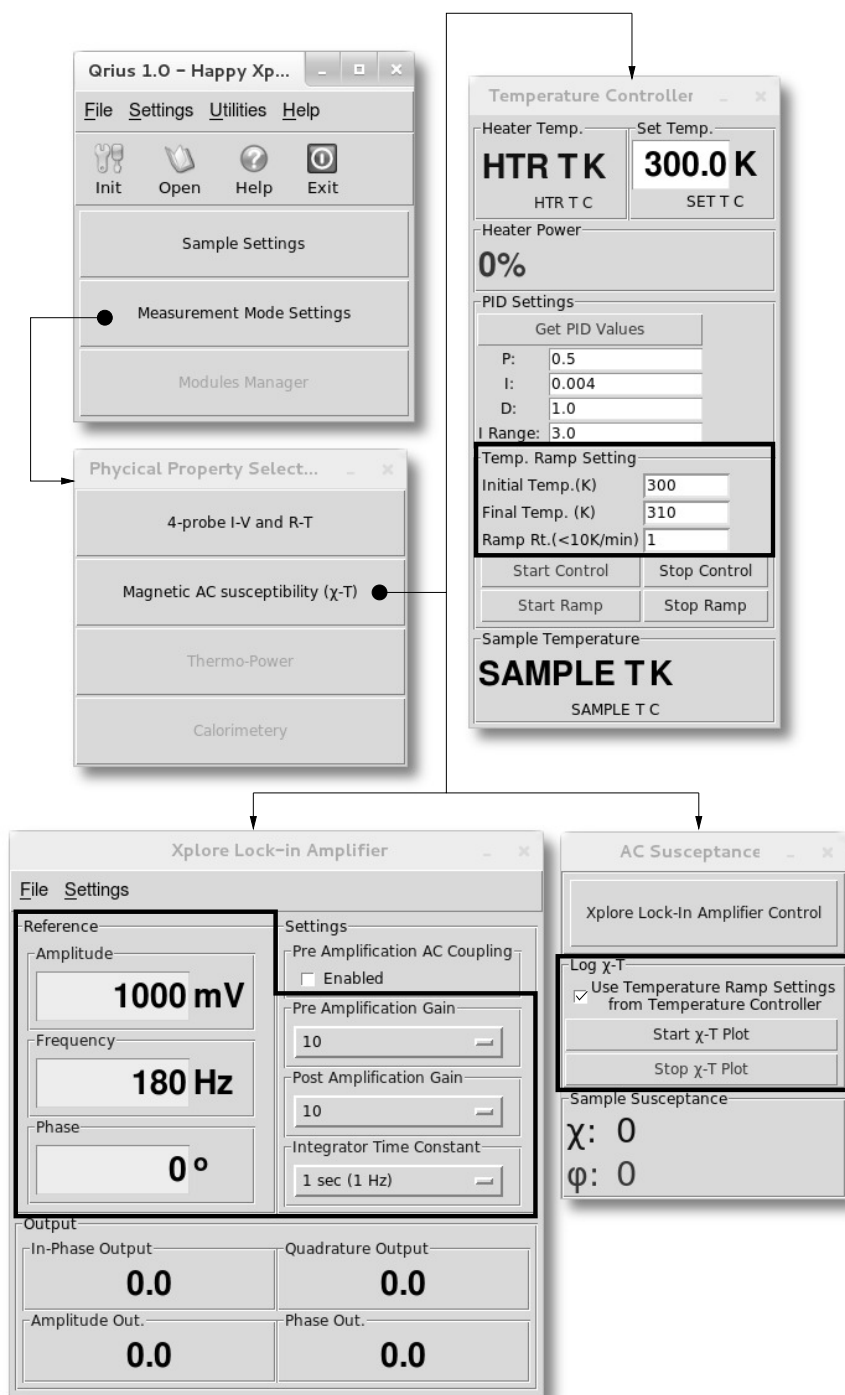

Figure 3.2: Launching Qrius  $\chi$ -T module
- Launch Qrius and open **Magnetic AC susceptibility ( $\chi$ -T)** module as shown in Figure 3.2. Consider the solid rectangles.